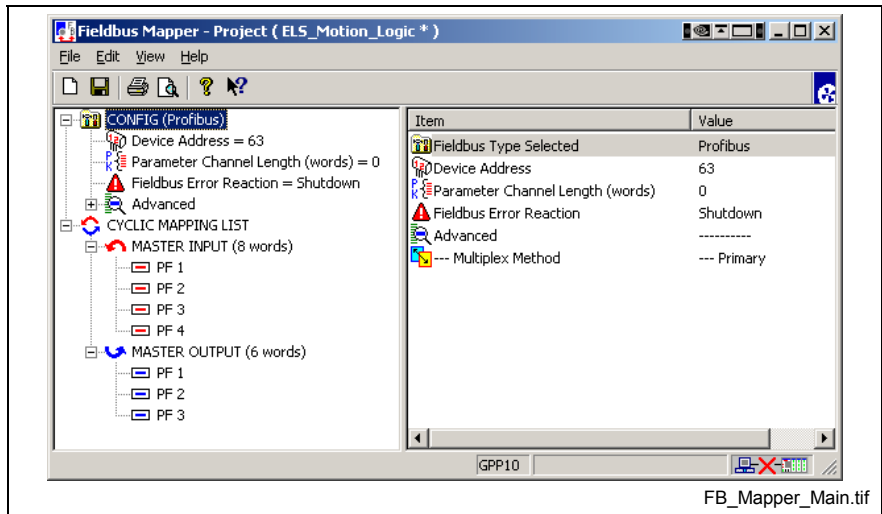

Fig. 7-98: FBMapper-Project Window
3. Click **Open**. The main Fieldbus Mapper window appears, which lists the configuration information. Refer to Fig. 7-98 below.